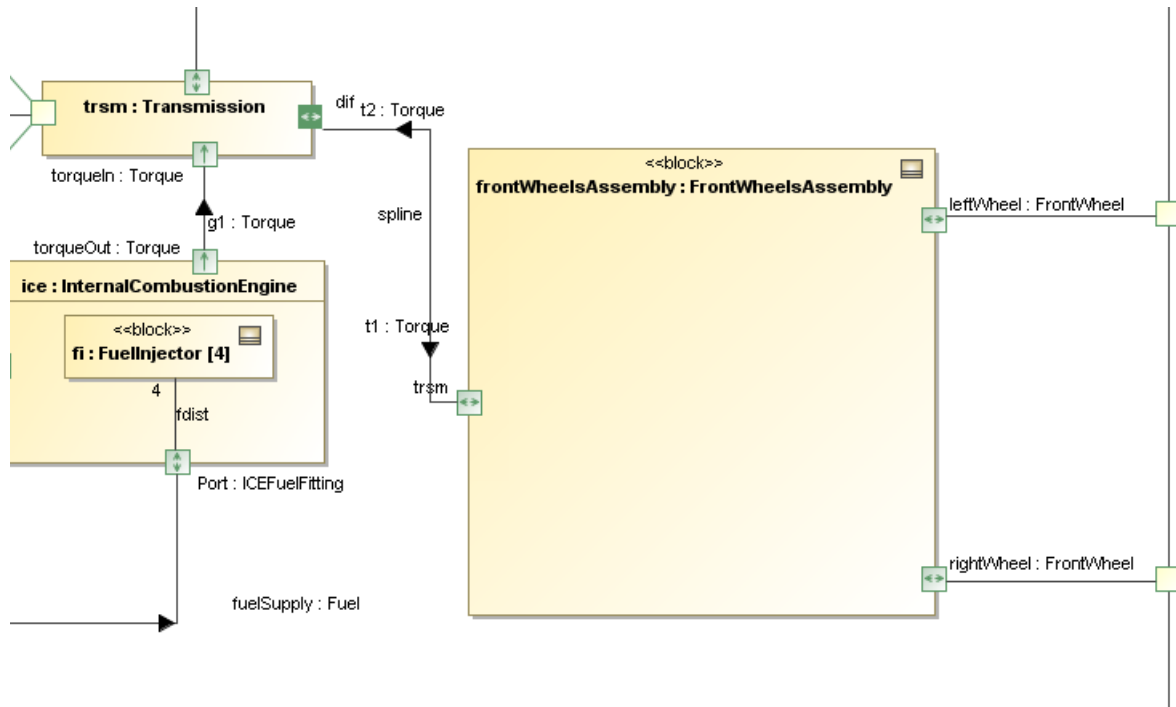

Figure 100 -- Internal Block Diagram After Extracting a Structure
6. Figure 100 shows the IBD after the structure was extracted. Since it preserves the diagram space of the previous structure, the original diagram will have minimal distortion and the existing layout will remain.